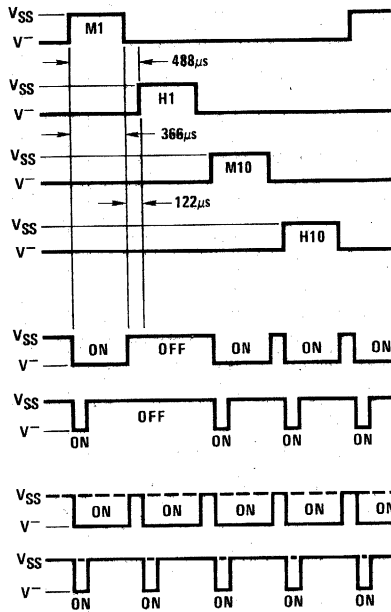
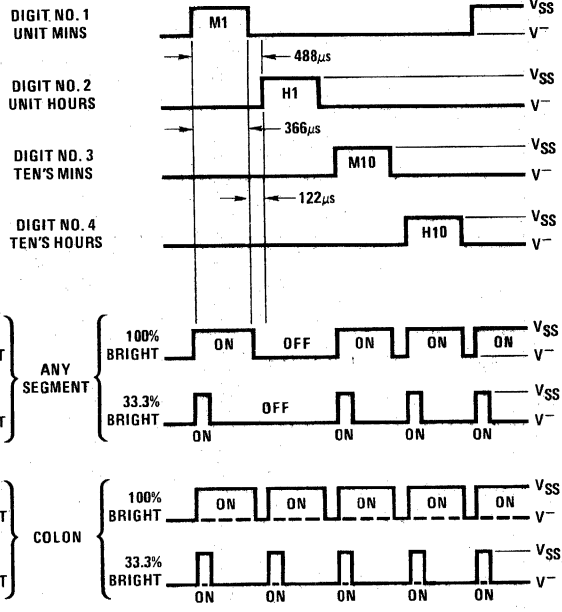

FIGURE 4. MM5379 Output Timing Diagram
FIGURE 5. MM5378 Output Timing Diagram
voltage(s) for a short time during inter-digit transitions, or (2) avoid physical adjacent inter-digit transitions. The MM5379 auto clock utilizes an interlaced output sequence and inter-digit blanking circuitry to prevent display arcing problems. The digit sequence is: (1) digit no. 4 (unit minutes), (2) digit no. 2 (unit hours), (3) digit no. 3 (ten's of minutes), (4) digit no. 1 (ten's of hours), etc. Blanking intervals are provided to recharge level-translating capacitors located in the display segment drive lines (Figure 6). Both segment data and digit enables are blanked. Figure 4 is a timing diagram which illustrates output timing for the MM5379. Figure 5 is a timing diagram which illustrates output timing for the MM5378.
Brightness Control: Since display brightness is a function of cathode segment current, a capability of interrupting this current for a variable percentage of the digit interval results in a brightness control. Depending on the magnitude of the voltage applied, the digit "ON" time will vary from 0% to 100% of its possible period in 8 1/3% increments. This is illustrated in Figures 4 and 5.